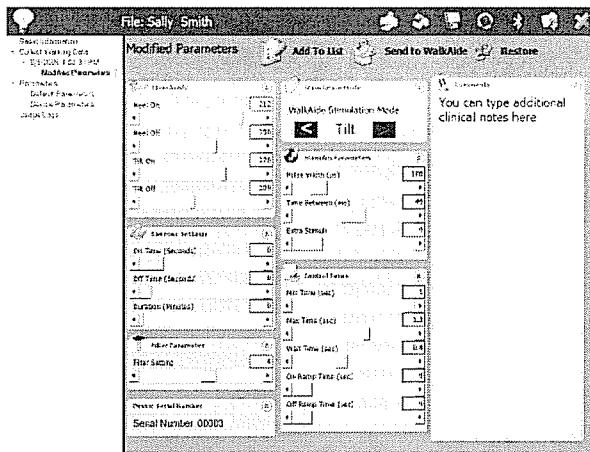

Figure 25 – Associated Parameters screen.
7. Click on the 'Modified Parameters' for the selected trial from the list on left side of the screen (Figure 25). Set the WalkAide Stimulation Mode to the appropriate setting (Tilt or Heel) and click on the 'Send to WalkAide' icon. Click 'OK' to confirm. The new parameters associated with the client's previous walking trial have now been sent to the WalkAide.